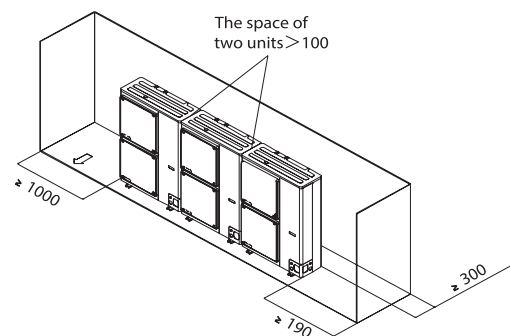

Figure 3
- Obstacles exist at the both sides (see Figure 3)